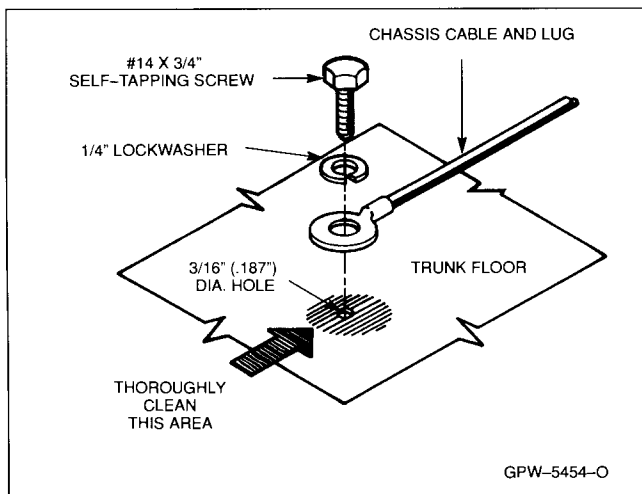

Figure 8. Radio Ground Connection
- (2) When mounting the radio securely to the trunk floor in some vehicles, the front panel may press against the floor or floor cushioning. Also, some vehicles make it necessary to mount the radio directly over the fuel tank. Always make a preliminary check to see how far the screws will extend below the trunk floor. Do not puncture the fuel tank. If either condition exists, insert one of the thick spacer washers between the bottom of the mounting tray and the floor at each of the four mounting holes. The washers help to keep the radio level, especially when the floor is covered with a "spongy" mat such as soft rubber. Replace the radio assembly by sliding the radio onto the tray at about the halfway point. Push straight back until the tray tabs enter the two window areas on the radio front and engage the handle tabs. Close by pushing the handle until it locks. The handle locks the radio to the mounting tray and conceals the top cover release button. Push the multi-conductor plug onto the male connector and rotate the thumbscrew clockwise to fully seat the connector. Reverse the procedure for removing the radio.
- (3) Thoroughly clean the trunk floor surface before proceeding. Connect the black ground cable lug to a convenient location on the trunk floor. Center punch and drill a 3/16" (.187") hole through the mounting surface. Use a #14 x 3/4" self-tapping screw and the supplied 1/4" lock-washer to mount the cable lug. See Figure 8.